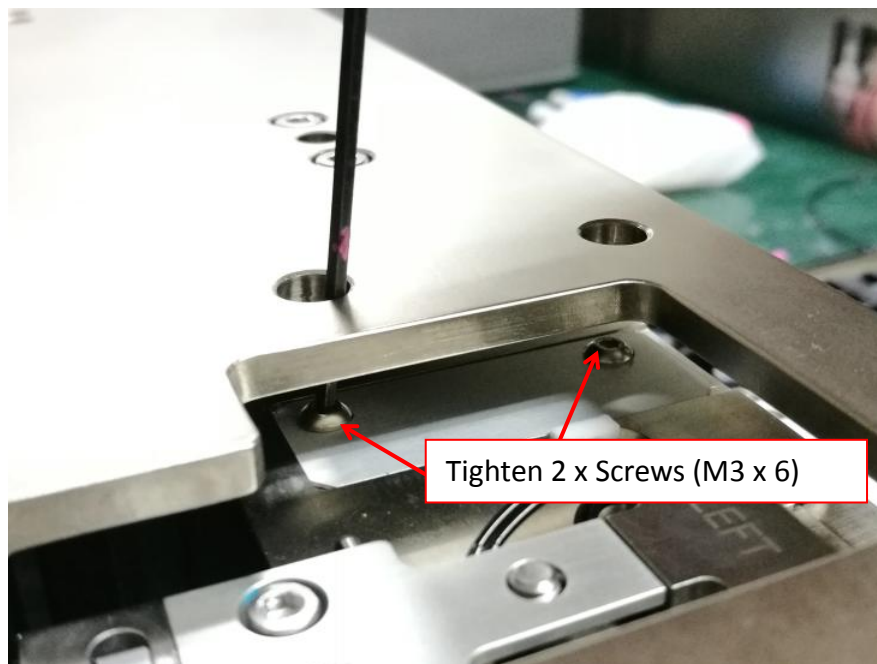

Figure 13 PIP Cover Assembly
6. Tighten 2 x Screws (M3 x 6) as shown in Figure 13.